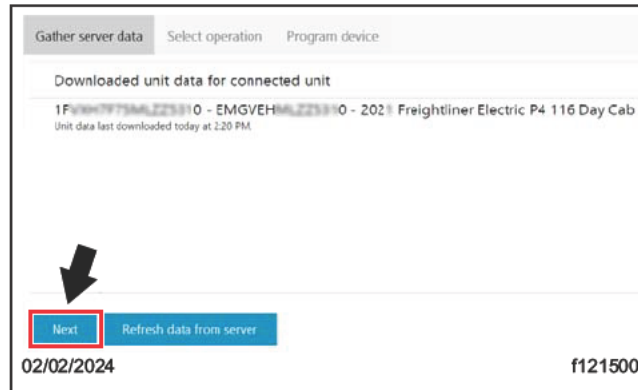

Fig. 24, Downloaded Data for Connected Unit
8. Once the data download is complete, select 'Next.' See Fig. 24.